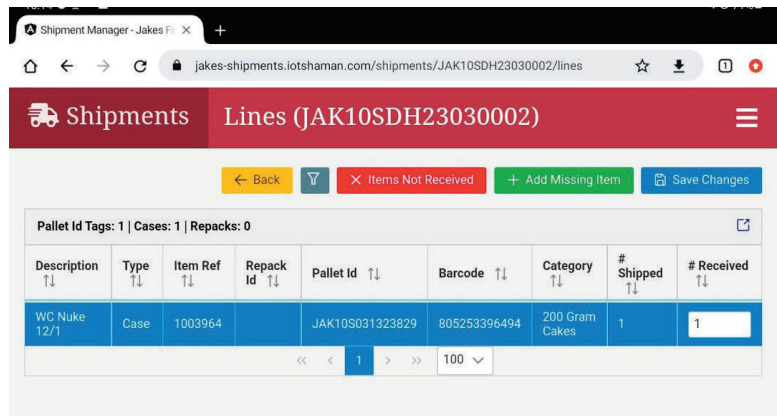

Figure 12
- h. If item not received, select the item line which will highlight it in blue and click on ITEMS NOT RECEIVED (Figure 12)